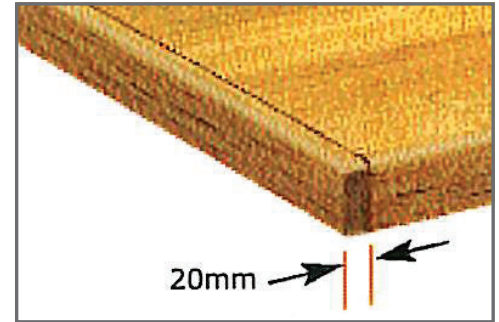

Fig. 8 Solid wood return
- When a benchtop is fitted near to a constant heat source i.e. a dropped hob or freestanding cooker allow a minimum gap of 10mm or cut yourself a 20mm end cap to be glued to the end of the benchtop adjacent to the heat source, this will stop the end grain drying out and splitting. (see Fig. 8)